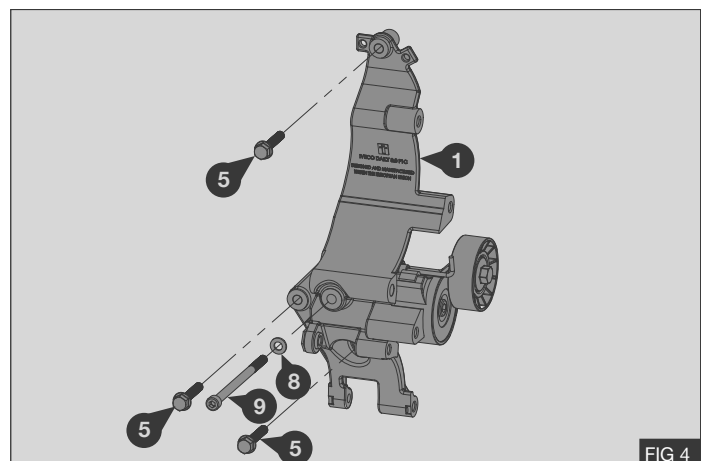

FIG 4
3. Secure the compressor mount bracket assembly **1** to the engine using bolts **5** and **9** with flat washer **8** - Fig 4
4. Torque bolts **5** and **9** to 29 Nm / 21 Lb ft - Fig 4